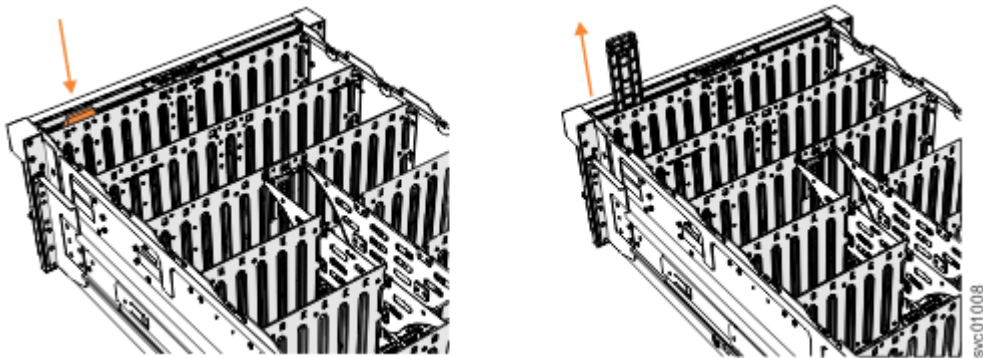

Figure 174. Removing the display panel assembly
3. Press the release tab at the top of the display panel assembly, as shown in Figure 174 on page 204.